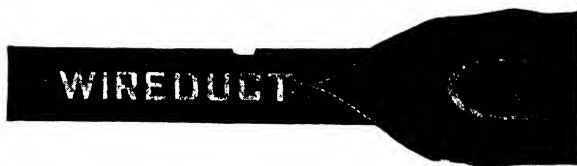

Fig. 52. Nonmetallic Flexible Tubing
**Wiring Old Buildings. Flexible Tubing.** In wiring old buildings where it is not possible to take up flooring, nonmetallic flexible tubing, Fig. 52, may be fished in partitions and between the floor and ceiling. Only one wire is permitted in each tube, and the tubing must be continuous from outlet to outlet or from knob to knob. This tubing may not be run across notched beams or joists, as is done with armored cables, but must be fished through existing channels in partitions or over ceilings. By removing baseboards, fishing parallel with the floor beams, going through floor plates with porcelain tubes, and picking up the circuits in the attic and the basement, a very safe and acceptable installation can be put in with flexible tubing at about two thirds of the cost of an armored cable installation.